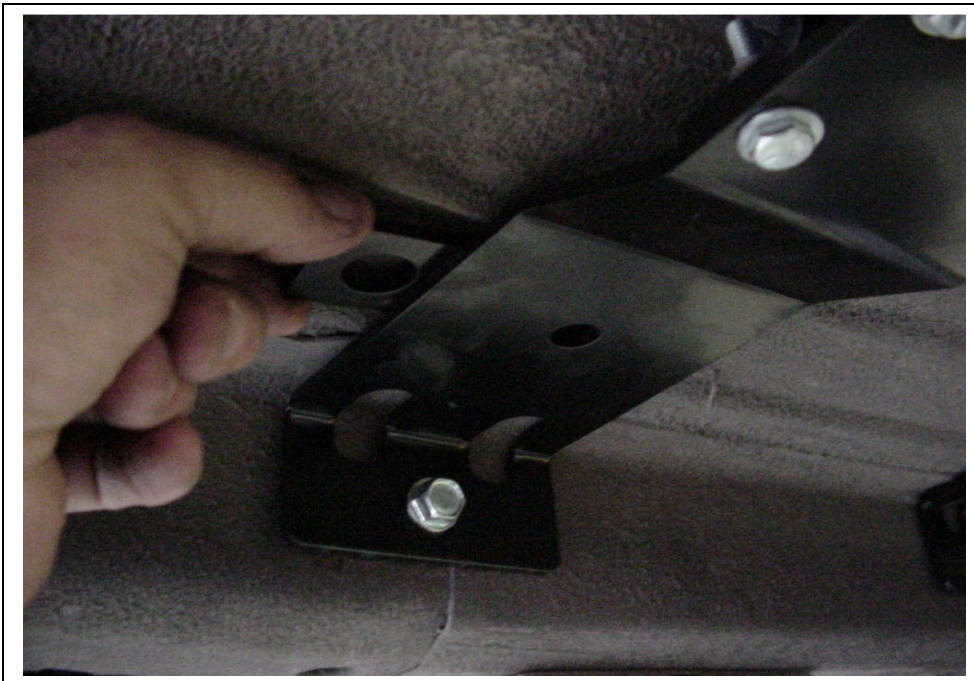

Figure 11
7. From the bottom install a square spacer between the ribs in the floor by lifting the bolt up slightly. Install a $\frac{1}{2}$ " flat washer and lock nut onto the bolt and torque to previously stated torque spec. **See Figure 11.**
9. For the third mounting bracket, place a block under the carpet to hold the carpet up. Unbolting the seat will greatly ease this operation. Pop the factory plug out of the floor and install a ½" bolt and black round spacer through the hole in the floor. Install a square spacer as shown in figure 11 and install a ½" flat washer and lock nut and torque.